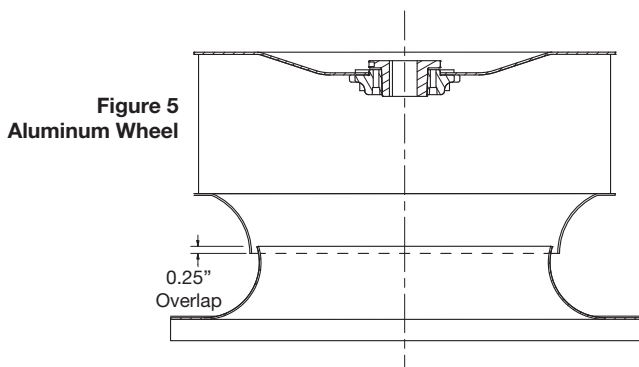

Figure 5
9. Install powerpack screws but do not fully tighten. Spin the fan wheel by hand to check for wheel rub. If rubbing occurs, adjust location of powerpack within the housing until rubbing is no longer present. Tighten screws to 9 ft-lbs. See Figures 5 and 6 for recommended clearance between the fan wheel and inlet venturi.